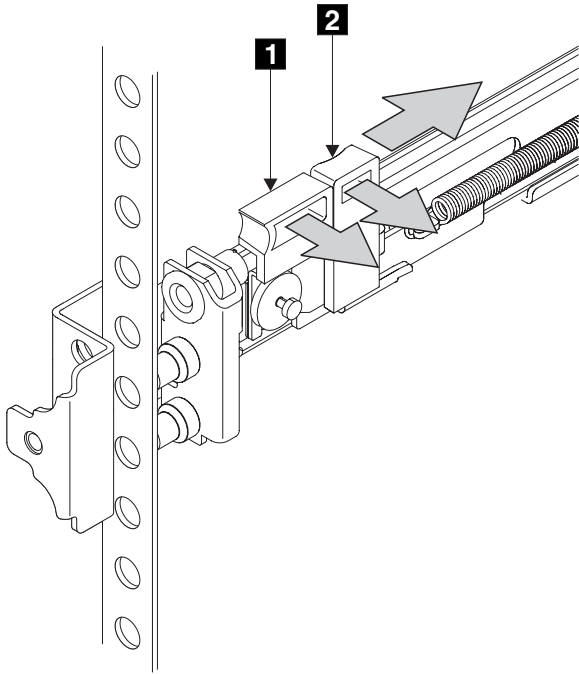

Figure 47. The left support rail for the SAN Volume Controller
2. Put your left index finger onto the back edge of the latch lever **2** and your left thumb on the front edge of the latch lock **1**, as shown in Figure 47 on page 66.